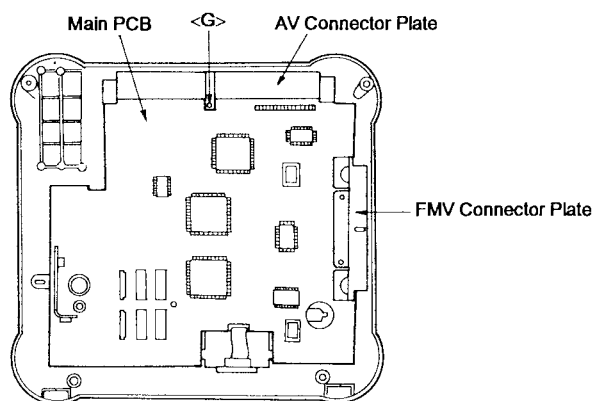

Figure 11
- (1) After removing the top case, the CD-ROM drive, the power transformer, the fan motor, and the DRAM PCB, remove screw <G> (2.6 × 8 mm), then remove the AV connector plate and the FMV-connector plate as shown in Figure 11.